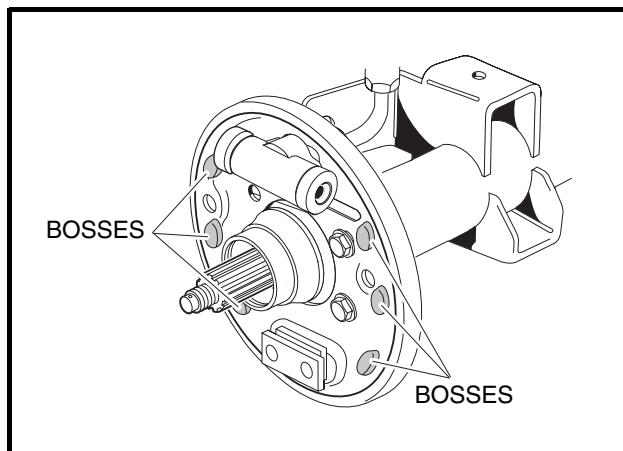

Figure 6-9 Lubricate Raised Bosses
10. Brush a light coat of white lithium NLGI Number 2 grease (Dow Corning BR2-Plus or equivalent) on each of the six raised bosses on the back plate (**Figure 6-9, Page 6-11**). **See preceding WARNING.**